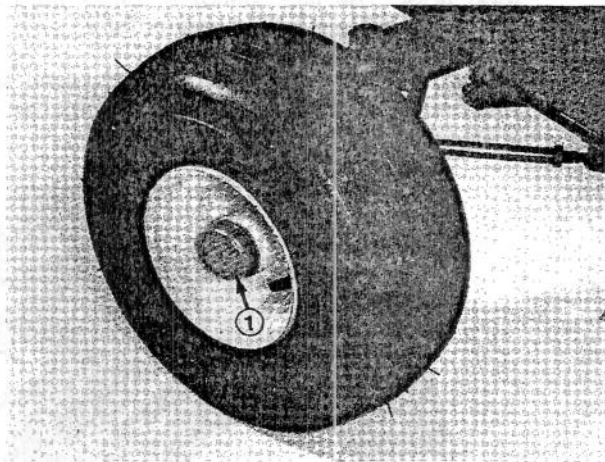

Figure 48
5. Install dust cap on end of the wheel spindle (Fig. 48).